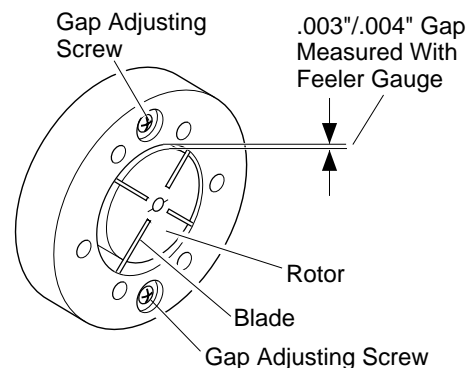

Figure 18 - Gap Adjusting Screw Locations
9. Check gap on rotor. Adjust to .003"/.004" if needed (see Figure 18).